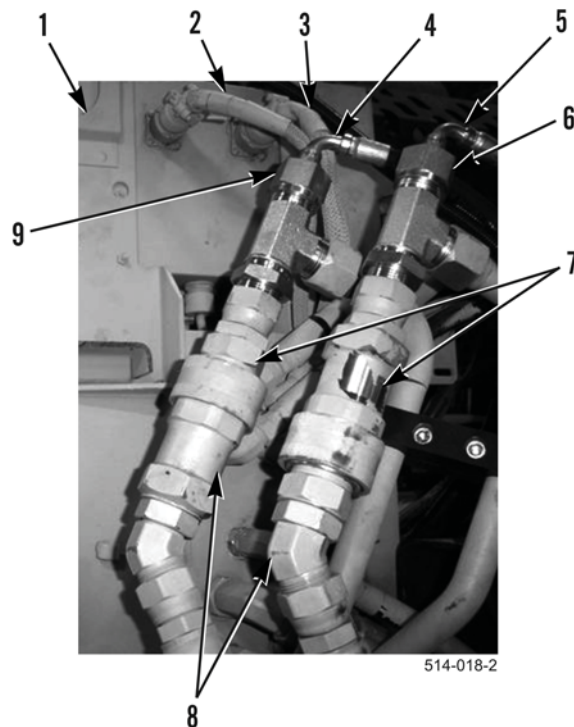

Figure 11. HEMTT M1120A4 Install Hydraulic Hoses and Wiring Harnesses.
30. Route pressure hose (Figure 11, Item 4) and relief hose (Figure 11, Item 5) to hydraulic control (Figure 11, Item 1).
31. Install pressure hose (Figure 11, Item 4) on T-fitting (Figure 11, Item 9) on hydraulic control (Figure 11, Item 1).
32. Install relief hose (Figure 11, Item 5) on T-fitting (Figure 11, Item 6) on hydraulic control (Figure 11, Item 1).
33. Route male and female quick disconnect hoses (Figure 11, Item 8) from under stowage assembly to hydraulic control (Figure 11, Item 1) and install on hydraulic control quick disconnect fittings (Figure 11, Item 7).
34. Route wiring harness (Figure 11, Item 2) to hydraulic control (Figure 11, Item 1) and install as marked during removal.
35. Route wiring harness (Figure 11, Item 3) to hydraulic control (Figure 11, Item 1) and install as marked during removal.